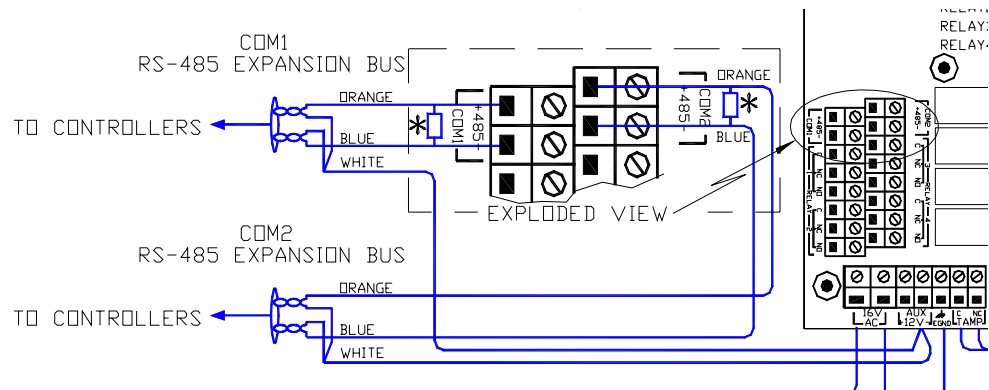

Figure 4. RS-485 Connection
1. The two RS-485 terminals (labeled COM 1 and COM 2) can be found next to the relay terminals at the bottom of the left side of the KT-NCC board. Wire the loops according to Figure 4 below: The orange wire connects into the + terminal; the blue wire connects into the - terminal; and the white wire connects to the ground for the KT-NCC.